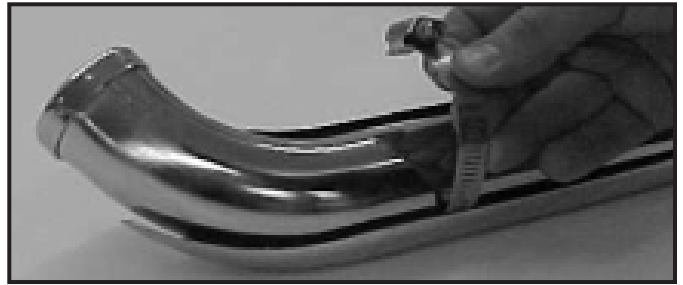

Figure 2. Mark the outside edge of the heat shield to show the location of the mounting clips where the hose clamps loop through.
5. Remove head pipes and heat shields from protective packaging. Place each heat shield on a non-abrasive surface such as a blanket or carpet. Using a felt tip pen, mark outside edge of each heat shield to show location of mounting clips where hose clamps will loop through (Figure 2).
7. Lay head pipes into heat shields and loosely install hose clamps by feeding tail end of clamp into heat shield clips (Figure 2). Take note of screw head direction (Figure 3). Screw heads should be accessible when system is installed on motorcycle for adjustment purposes.